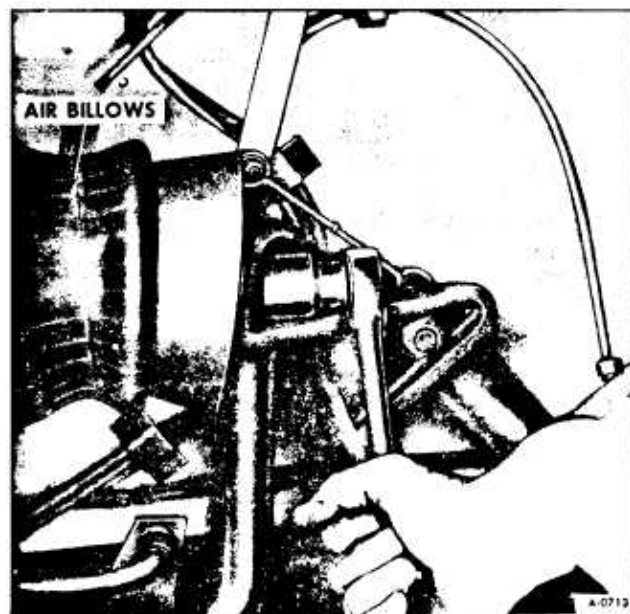

Figure 9—Removing Bellows Retaining Nut
4. Referring to Figure 9, remove retaining nuts and washers.
4. Remove bellows retaining nuts, located at either end of air bellows, as shown in Figure 9.